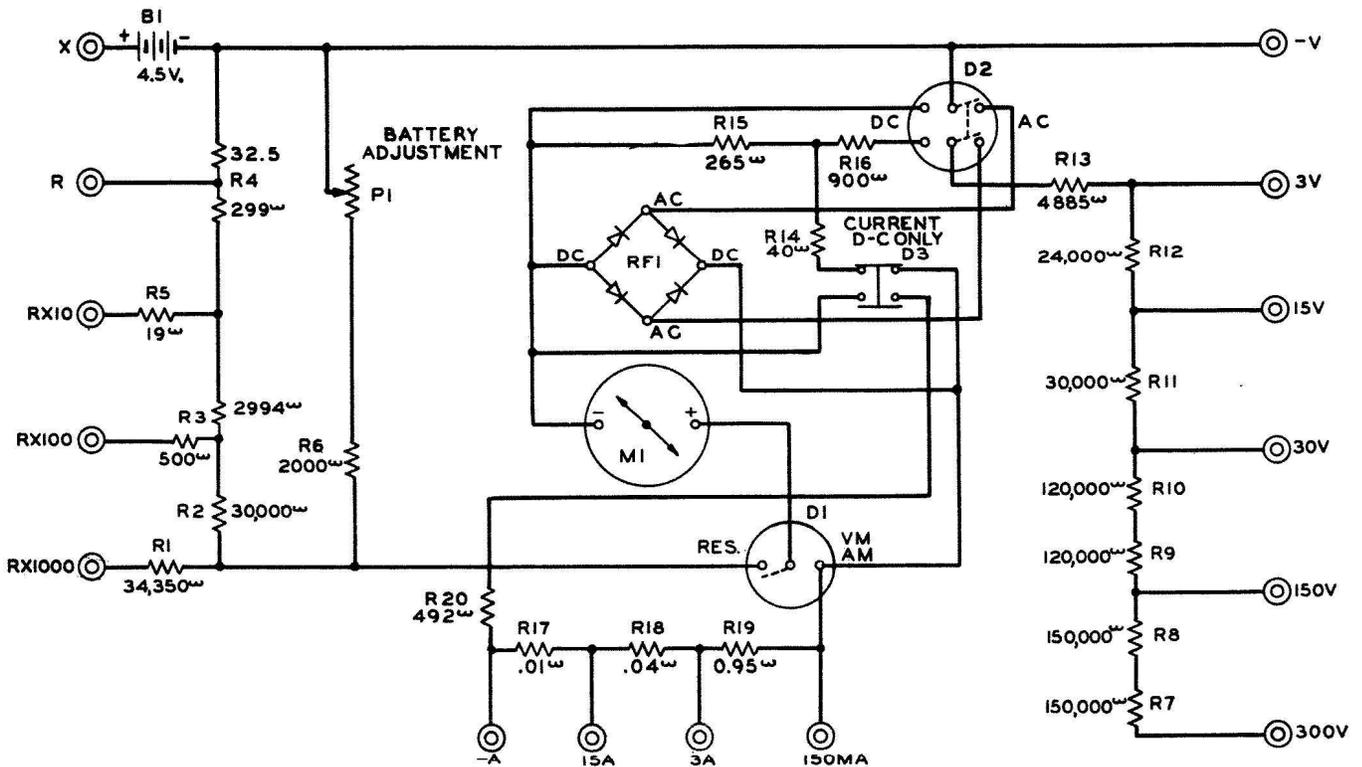

Fig. 4 - Schematic Diagram of M9B Meter Circuit
2.01 A schematic of the M9B Meter is shown in Fig. 4. The scale ranges provided are as follows: